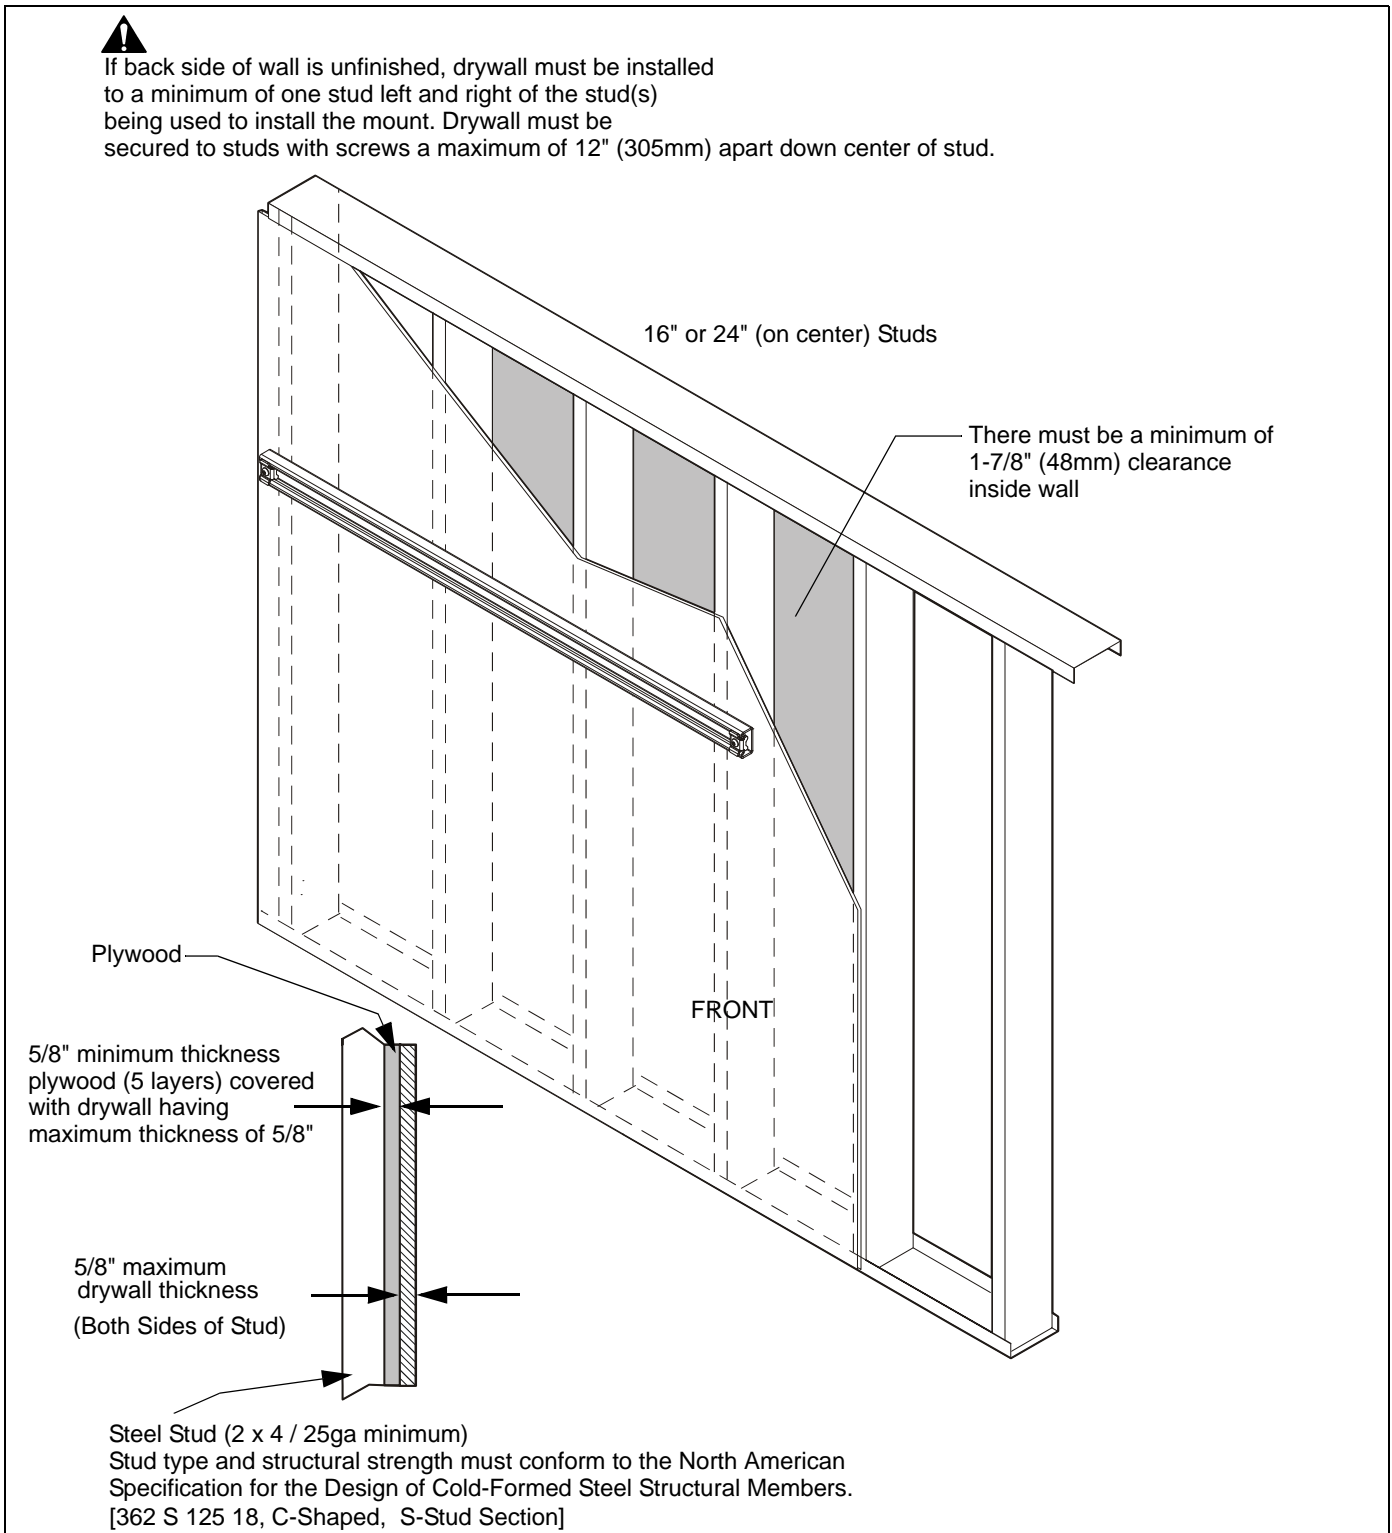

Figure 25
1. Use one #14 x 1-1/2" hex-head washer slot head screw (N) and one 1/4" washer (M) through strut channel or rail. (See Figure 25)